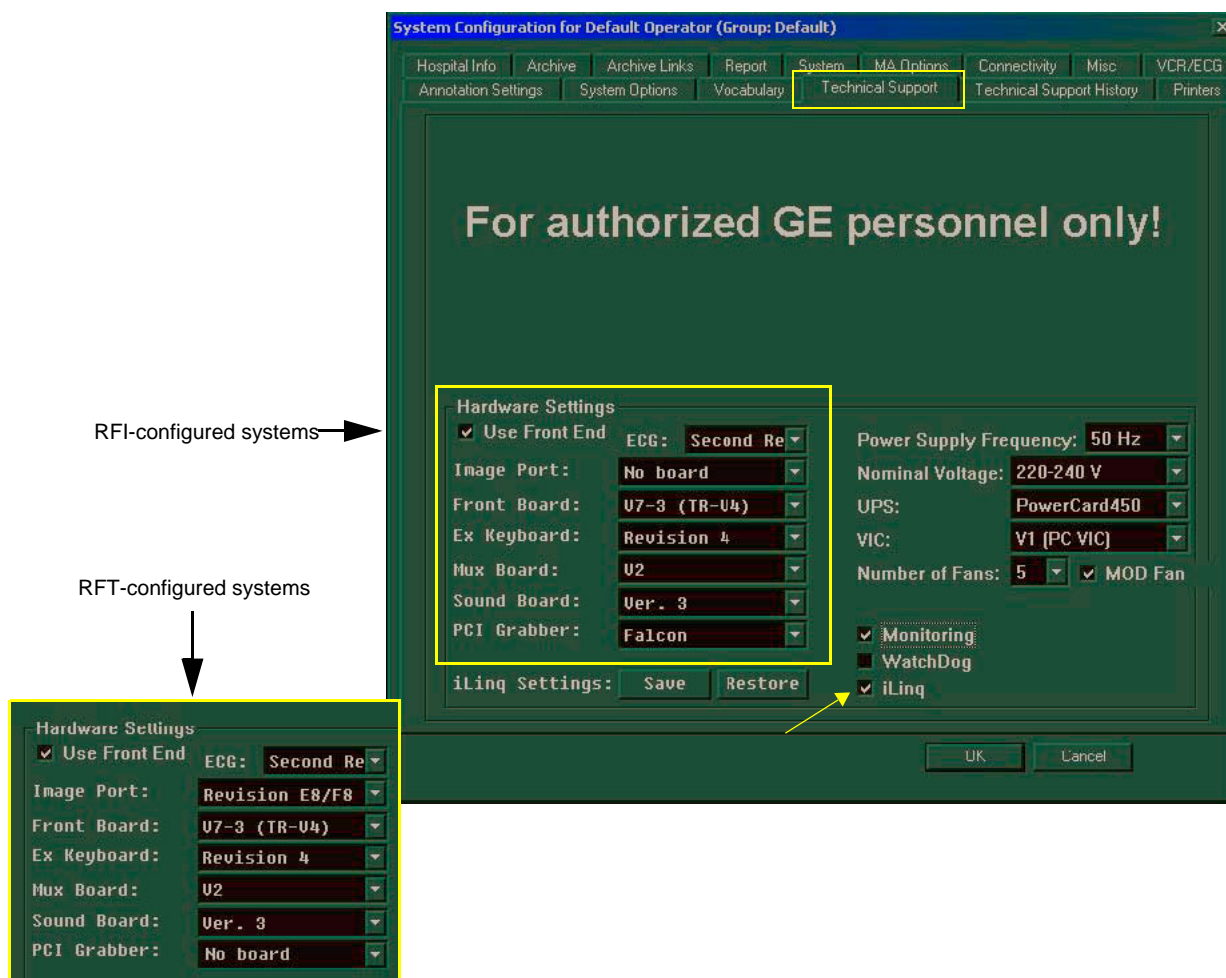

Figure 7-59 Technical Support - System Configuration
- 1) From the System Configuration window, make sure that **iLinq** (the Common Service platform) is enabled under the *Technical Support* tab, as shown in Figure 7-59 below.